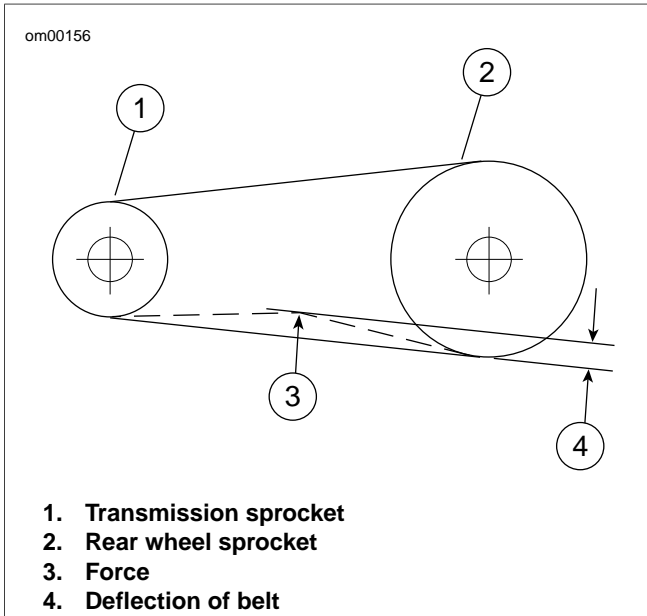
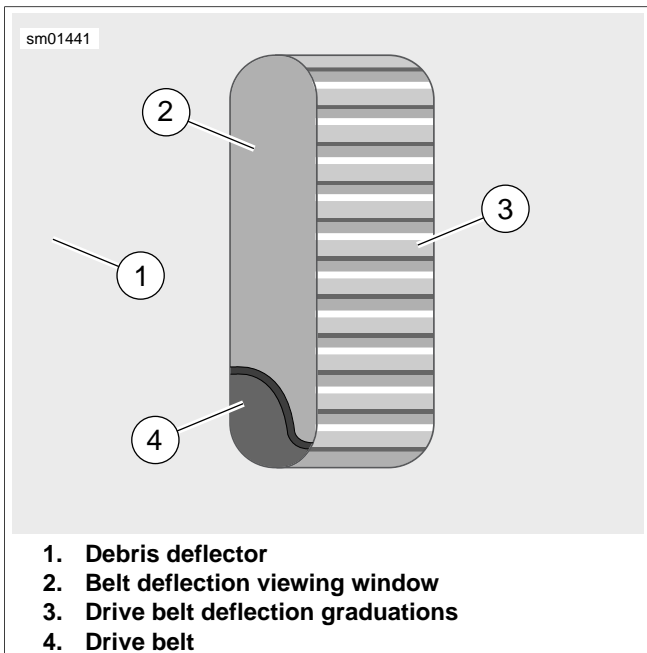

Figure 1-26. Check Belt Deflection
Figure 1-27. Belt Deflection Window
- a. Slide o-ring (4) toward 0 lbs (0 kg) mark (3).
- b. Fit belt cradle (2) against bottom of drive belt half-way between drive pulleys (point 3 in Figure 1-26.)
- c. Press upward on knob (6) until o-ring slides down to 10 lbs (4.5 kg) mark (5).
3. See Figure 1-27. Measure belt deflection as viewed through deflection viewing window (2) while holding gauge steady. Deflection graduations (3) are 1/8 in. (3.2 mm) apart.